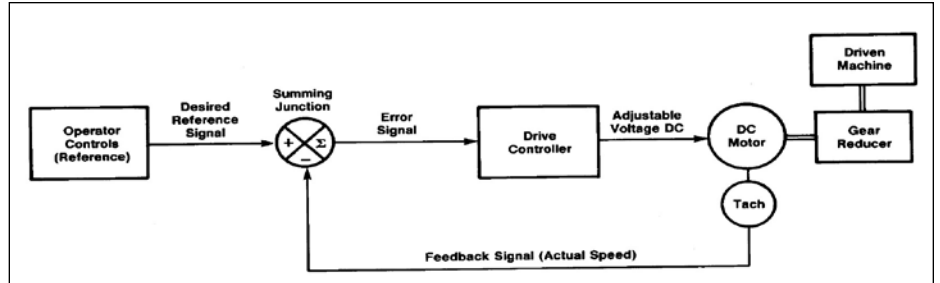

Figure 1 DC drive control system.
**DC drive control system.** A basic DC drive control system generally contains a drive controller and DC motor as shown (Fig. 1).
The tachometer (feedback device) (Fig. 1) converts actual speed to an electrical signal that is summed with the desired reference signal. The output of the summing junction provides an error signal to the controller and a speed correction is made.